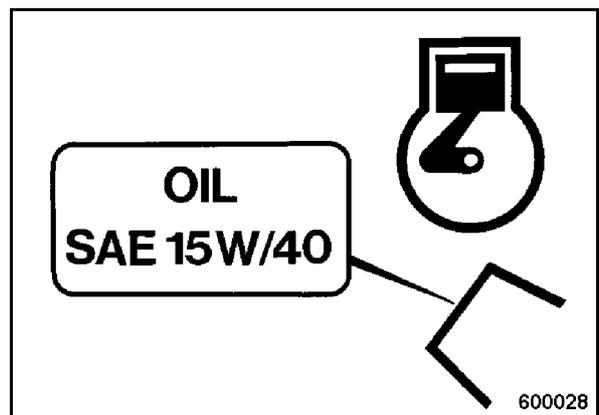

Fig. 41
- Fill in new engine oil (Fig. 41).